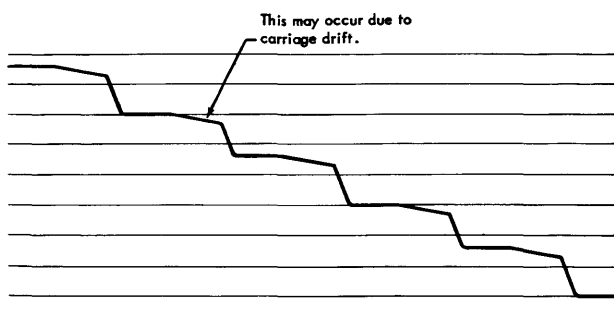

Figure 52. Bypass Adjusted Correctly
- b. Turn out on the bypass needle valve until the line graph just resembles Figure 52.